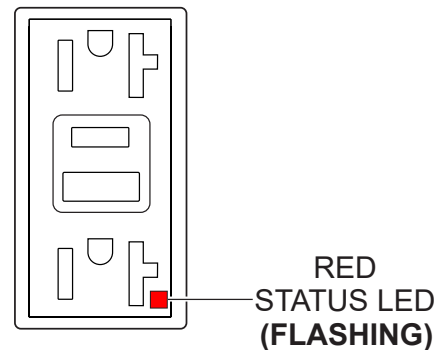

Figure 72. GFCI Receptacle (Red Flashing LED)
8. If the status LED (Figure 72) is **flashing (RED)**, **DO NOT** use the GFCI receptacle and replace it immediately.